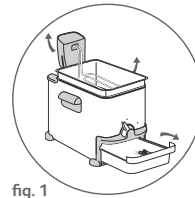

fig. 1
- Your fryer is easy to handle and to dismantle – fig. 1.
- The fryer can be completely dismantled – fig. 1. Remove the lid. Remove the frying basket, the control unit and the bowl. Remove the oil box by positioning the Oil box control button on the Oil box position.